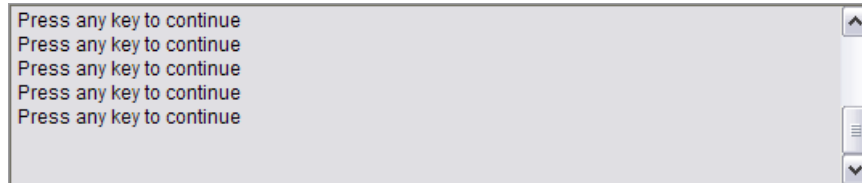

Figure 25. Waiting for User Input
Now the MCU will be running the new firmware and blinking the green LED (P1.6) to indicate that the IP address has not been programmed. In this mode, the MCU is waiting for the user to initiate the update by connecting to the serial port and pressing any key to start. Figure 25 shows the output seen on a UART terminal screen when the MCU is waiting for user input. The following instructions show how to program the IP and MAC addresses.
3. Once connected, you should see the text in Figure 25 appear on the screen. **Press any key.**